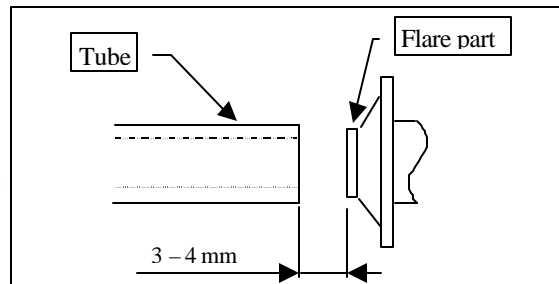

Fig. 17 Position to lock the insertion unit
- Lock the insertion unit in the position where there is clearance of approx. 3 to 4 mm between the tube end and the flare part (see Fig. 17).